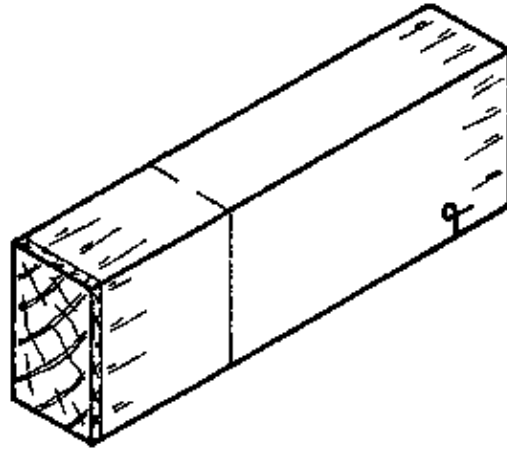

Fig. 3
- Square lines all around (Fig. 3).